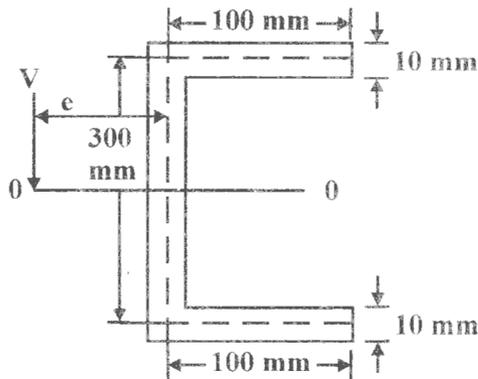

Fig. 2
- (c) For a channel section shown in Fig. 2, find 10